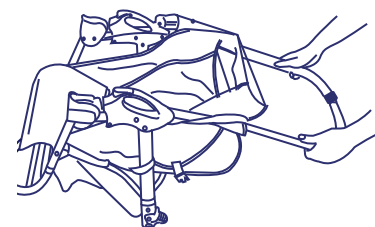

Figure 1.
- To attach the front wheel, unfold stroller as described in the section following. See figure 1.